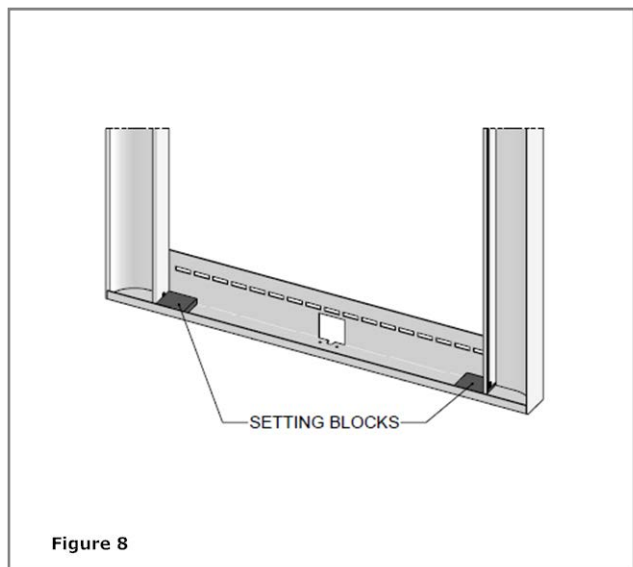

Figure 8
5. Position setting blocks on the lower edge of the frame. **See Figure 8**